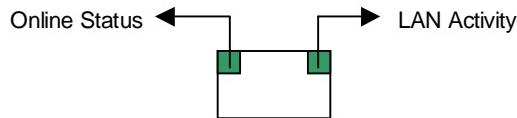

Figure 3-4: Ethernet Port LEDs
This enables you to manage your subsystem via the web. Two (2) LEDs located on the Ethernet port indicate the Ethernet connection status. See *Figure 3-4* for the locations of the two (2) LED indicators. Refer to *Table 3-5* for the LED definitions.